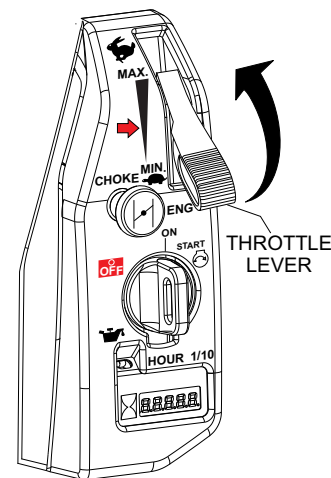

Figure 14. Throttle Lever
5. Move the throttle lever halfway between the **MIN.** and **MAX.** position (Figure 14) for starting.
- Place the throttle lever (Figure 14) in the **MAX.** position.
4. Place the throttle lever (Figure 14) in the slow position. Idle the engine 3–5 minutes for gradual cooling.